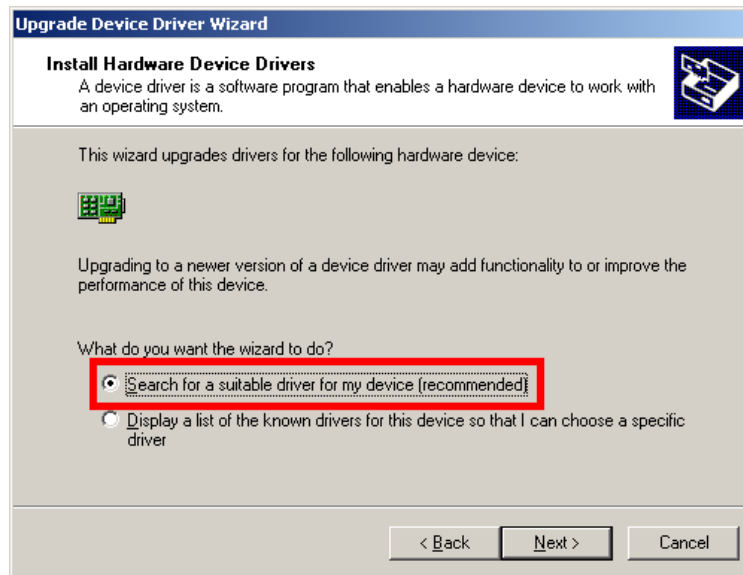

Figure 7-30: Search for Suitable Driver
Step 6: The **Device Driver Wizard** appears (Figure 7-30).